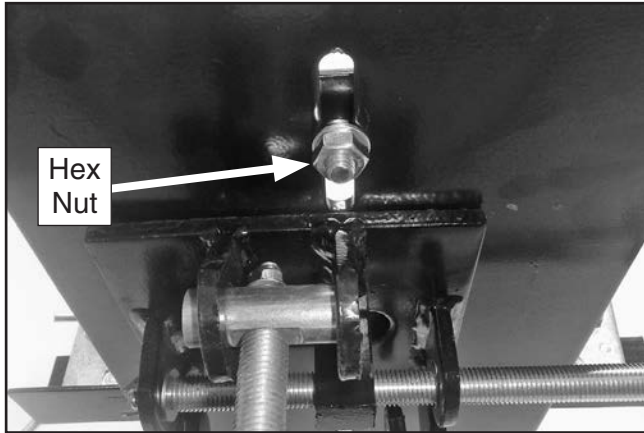

Figure 7. M10-1.5 hex nut secures angle-iron bracket to platform below. Slot allows horizontal adjustment in platform.
- Attach an angle-iron bracket to each side of platform assembly. Place (1) M10-1.5 x 25 hex bolt through hole in angle iron bracket and slot in platform. Secure from below with (1) 10mm flat washer and M10-1.5 hex nut (see **Figure 7**).